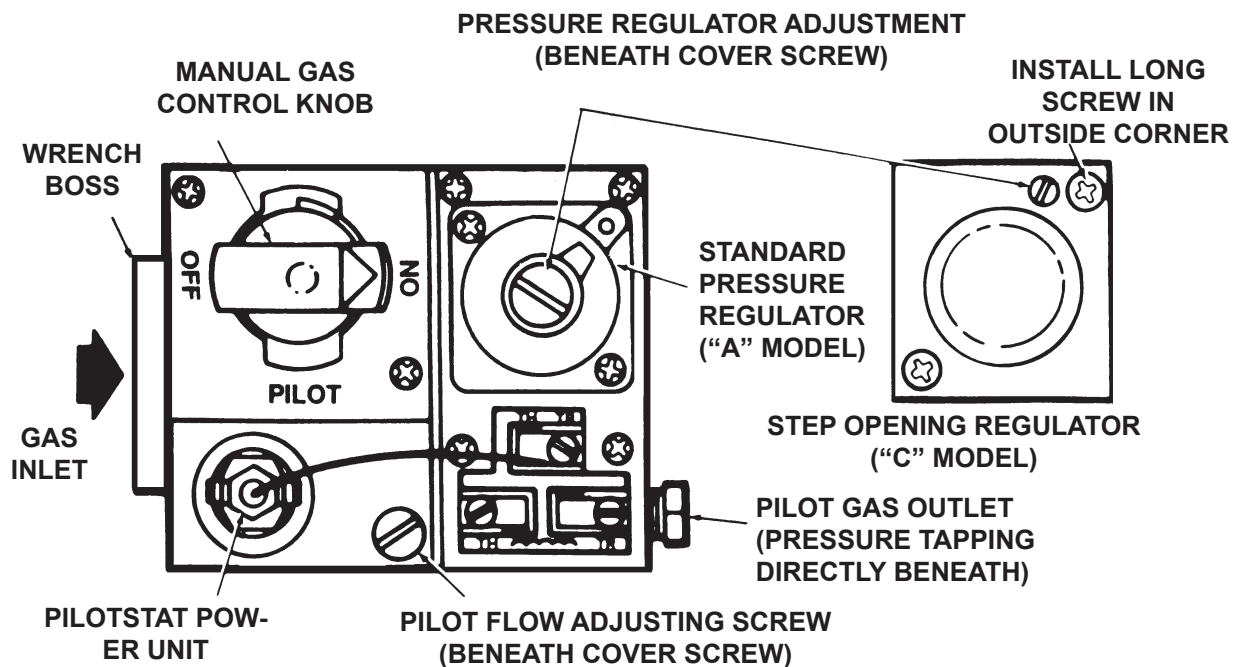

Figure 12. Top View of Standard Capacity Gas Control
- A. Remove pilot adjustment cover screw. Refer to Figure 12.
| Pilot can not be ignited | -Block pilot orifice -Gas cock not in position -Pilot gas flow adjustment screw may be closed | -Replace -Gas cock knob must be turned to pilot, depressed and held down. -Open and adjust (see Figure 12) |